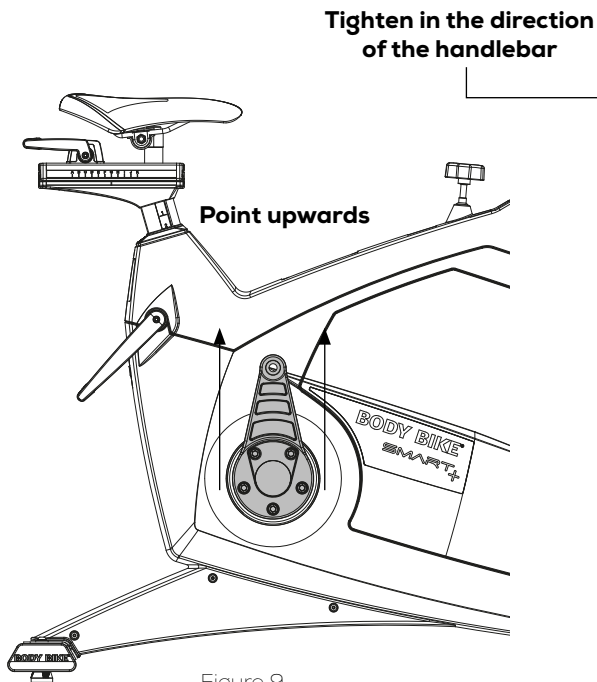

Figure 9
- 1) Place the right pedal arm with the socket pointing upwards, see figure 9.